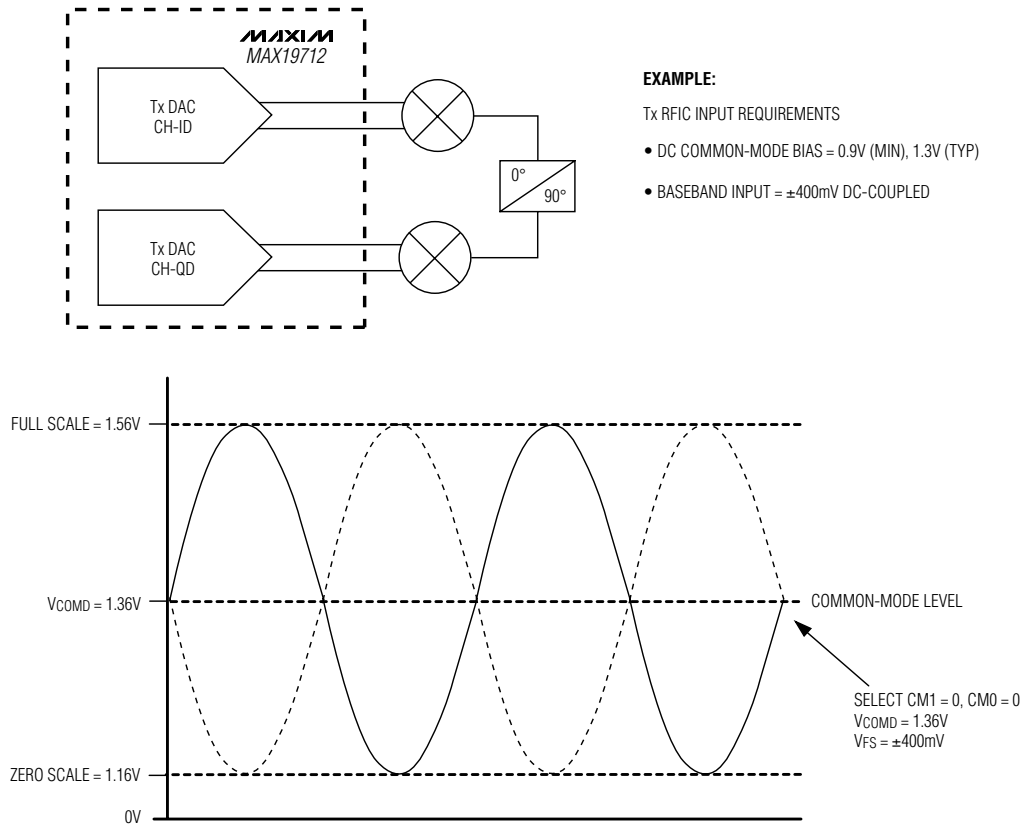

Figure 4. Tx DAC Common-Mode DC Level at IDN, IDP or QDN, QDP Differential Outputs
**internally generated common-mode DC level.** Table 2 shows the Tx DAC output voltage vs. input codes. Table 10 shows the selection of DC common-mode levels. See Figure 4 for an illustration of the Tx DAC analog output levels.